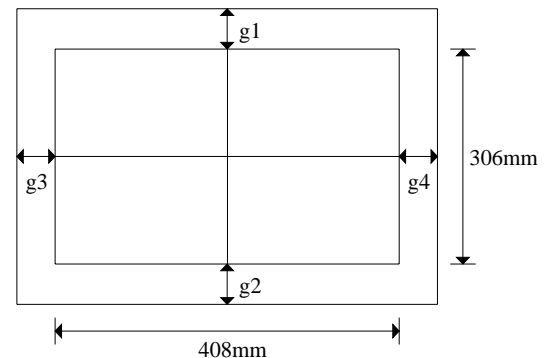

FIG. 2
c. Picture position (refer to FIG.2).